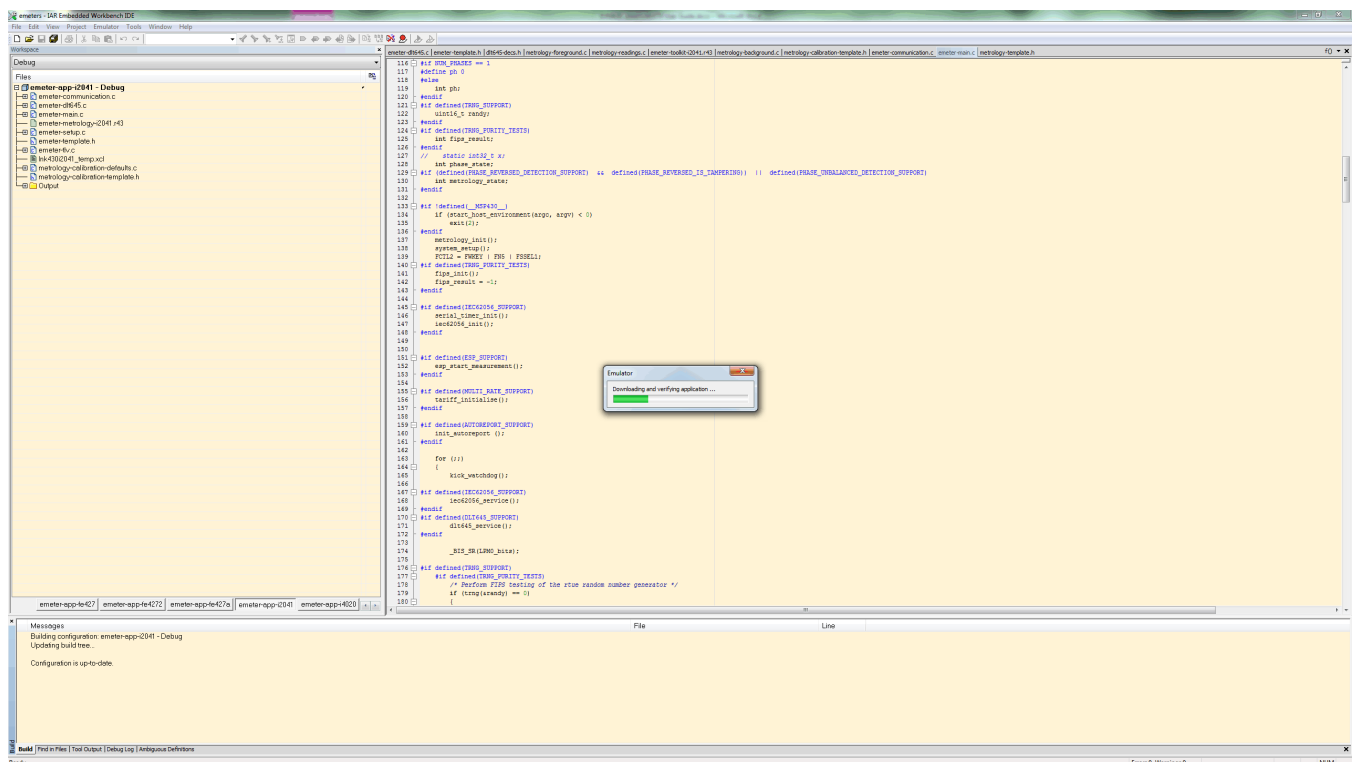

Figure A-8. Code Downloading
9. Click the **Download and Debug** button to begin download and debugging (see Figure A-8).